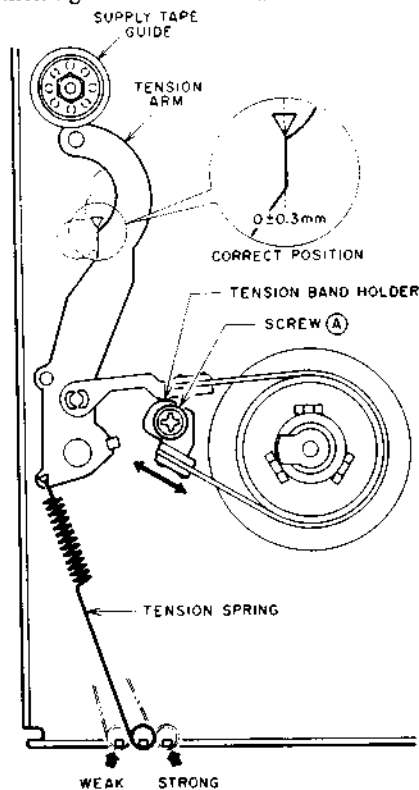

Fig. 5-1
- 3) In the play mode, loosen the screw ① and set the TENSION ARM position to the correct position as shown in Fig. 5-1 by the tension band holder position, then tighten the screw ①.